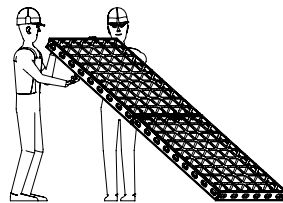

Fig. B1.02
3. Two persons are required to transport the panel unit to the place of operation (Fig. B1.02 + B1.02a).